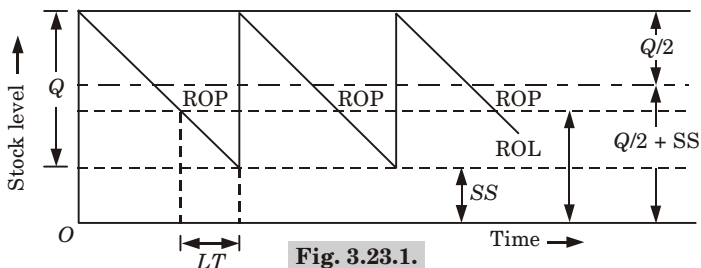

Fig. 3.23.1.
9. Fig. 3.23.1 represents an ideal inventory model wherein the actual demand is same as expected demand and there are no variations from the forecasts.